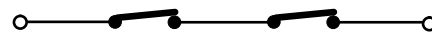

Fig. 12
N.B. If two or more devices have the same function (opening or closing), they should be connected to each other in series (see fig. 12). N.C. contacts must be used.
STP - Terminal 11 plus a negative = STOP contact (N.C.): any device (e.g. a push-button) which, by opening a contact, is able to stop gate movement. To install several STOP devices, connect the N.C. contacts in series (see fig. 12).